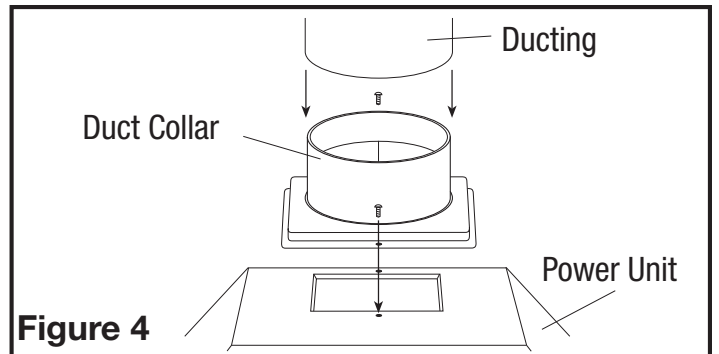
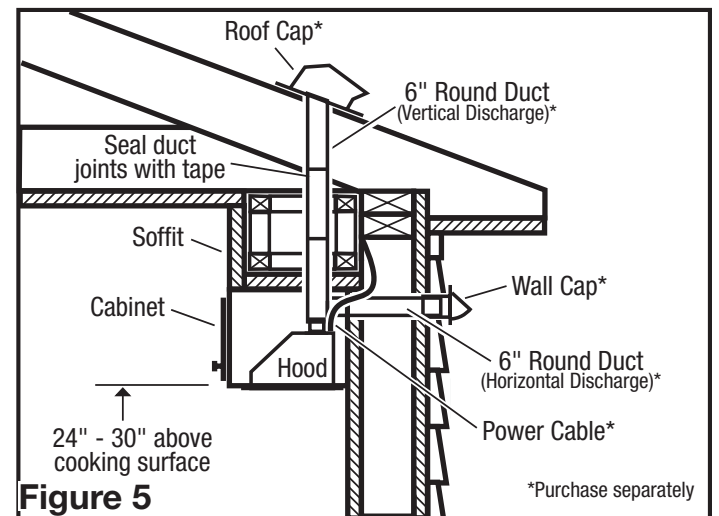

Figure 4
Figure 5
1. Install the included duct collar to the hood with two of the provided #6 blunt tip screws (**Figure 4**). Ensure duct joints and exterior penetrations are sealed with caulk or other similar material to create an air-tight path to minimize building heat loss or gain and to reduce the potential for condensation. Place/wrap insulation around duct and/or fan in order to minimize possible condensation buildup within the duct, as well as building heat loss or gain (**Figure 5**).
- When there is access to the top of the unit, connect the ducting to the duct collar and secure in place using tape to seal all joints (Figure 4).